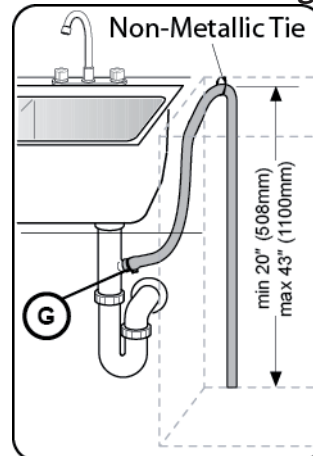

Figure 11
1. Directly under the sink dishwasher drain connection, as shown in Figure 11.